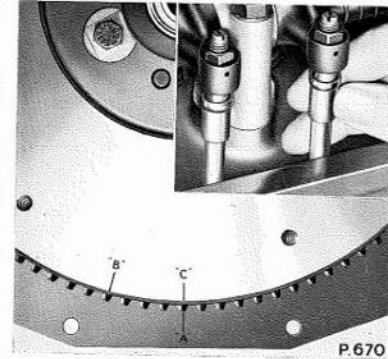

Fig. B.37. Checking the valve timing, using the flywheel and starter ring (The inset shows number 1 cylinder inlet valve push rod rotated by hand)
5. Scribe a line through the centre of one of the starter ring teeth, then scribe a second line on the front half of the bottom cover immediately in line with the marked tooth (see Fig. B.37).
6. Remove the timing plug and looking from the rear of the engine determine the point at which number 1 cylinder inlet valve opens, proceeding in the following manner. Rotate the engine a  $\frac{1}{4}$  to  $\frac{1}{2}$  revolution clockwise from the T.D.C. position to eliminate all slack in the timing chain, and return it anti-clockwise until the inlet valve of number 1 cylinder is on the point of opening, denoted by the fact that the push rod is just nipped, i.e., at the point where a marked tightness is evident when the push rod is rotated by hand. Mark the starter ring tooth which now aligns with the scribed line on the bottom cover (see Fig. B.37).